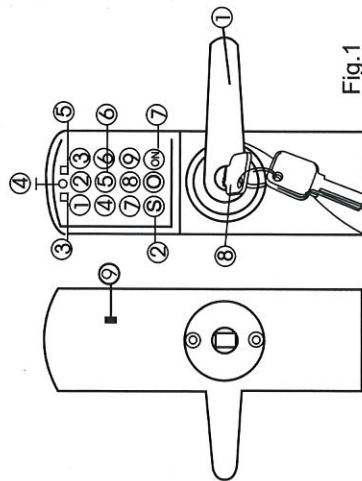

Fig.1
If the master code has been forgotten, press reset key , see the Fig.1, it'll come back to the original master code "0123".
B. Insert the key in the lock (see the Fig.1) and turn 90°, then all the people can turn the external handle to open the lock.
1. When the red indicator  (see the Fig.1) is off, the user can only input the master code or user code to open the lock, or the valid code can not open the lock.